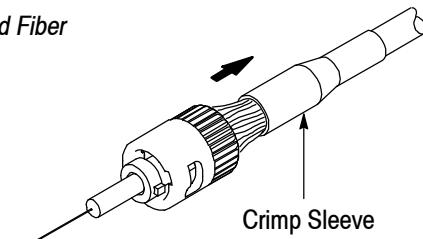

Figure 10
- a. While holding the connector, carefully slide the crimp sleeve away from the connector body to release the strength members. See Figure 10.